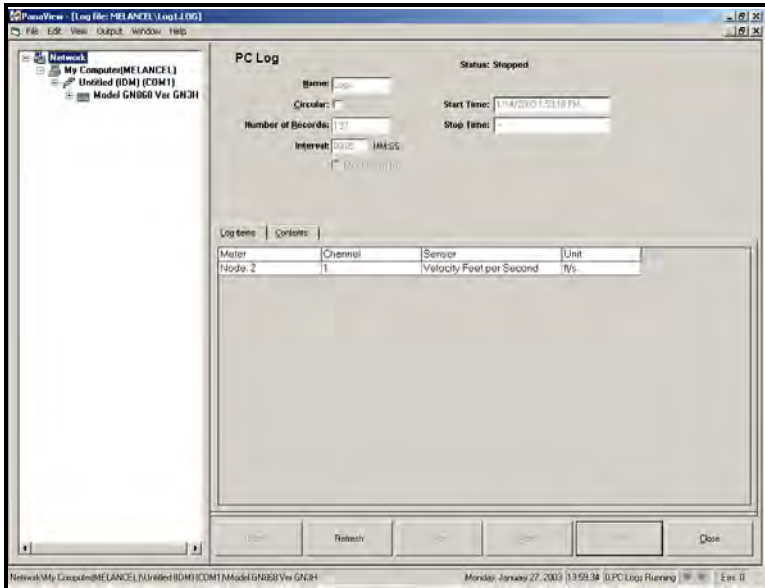

Figure 80: The PC Log Window
6. At the resulting “PC Log” window shown in Figure 80, place a check mark in the text box to create a *circular log*, or leave this box empty to create a linear log.
7. Enter a sampling *interval* in the text box shown in Figure 80 on page 97, or check “*Max Comm Rate*” to sample data at the fastest speed allowable by the system (1 sec).
- Click on the “*Log Items*” tab (see Figure 80 on page 97) for a list of the parameters specified for logging.
- Click on the “*Contents*” tab (see Figure 80 on page 97) for a list of all the data points logged to date for the parameter currently highlighted on the “*Log Items*” tab.